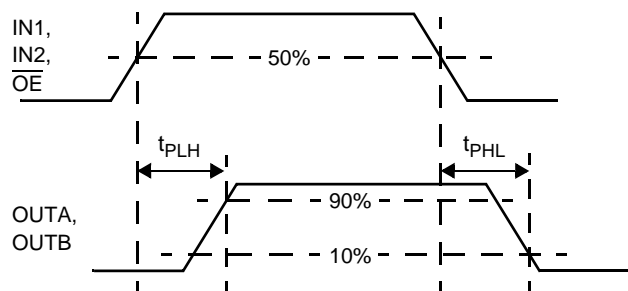

Figure 4.  $t_{PLH}$ ,  $t_{PHL}$ , and  $t_{PZH}$  Timing
16. Load of Output is  $8.0\text{ }\Omega$  resistance. see Figure 4